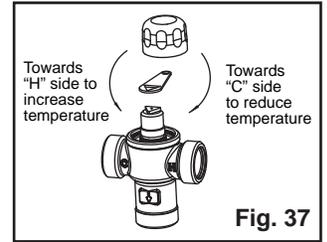

Fig. 37
- 4C** **Thermostatic Mixing Valve** (Fig. 37) To adjust the mixed outlet temperature of the valve, remove the cap to gain access to the adjusting spindle. The spindle should be rotated towards the "C" side to reduce the temperature and towards the "H" side to increase the temperature - until the desired set point is reached.